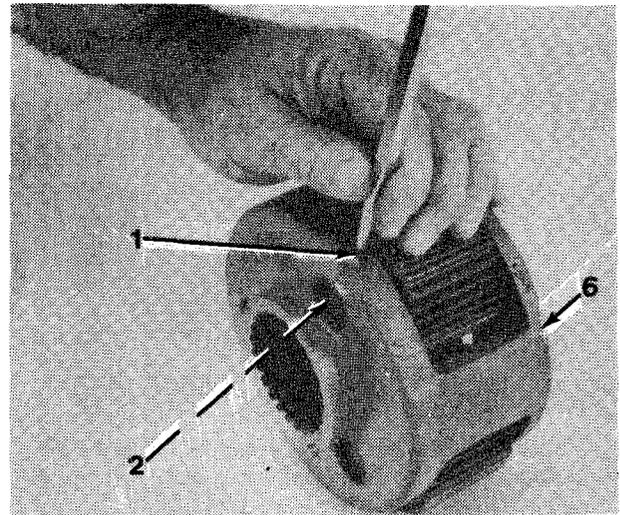

Figure 16-4
3. Install three new rollpins (1) through holes in output planet carrier (6) and in three gear shafts (2, Figure 16-4).
4. Recess three rollpins (1) slightly and stake output planet carrier (6) to secure three rollpins (1).